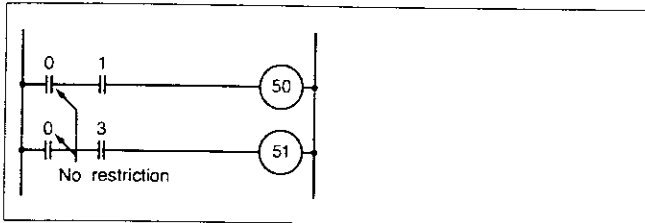

Figure 14.1
- a. The number of contacts for inputs/outputs, flags, timers and counters is not restricted; any number of contacts can be assigned (Figure 14.1).
- f. Ensure that programming is carried out from left to right (see Figure 14.1 to 14.5).